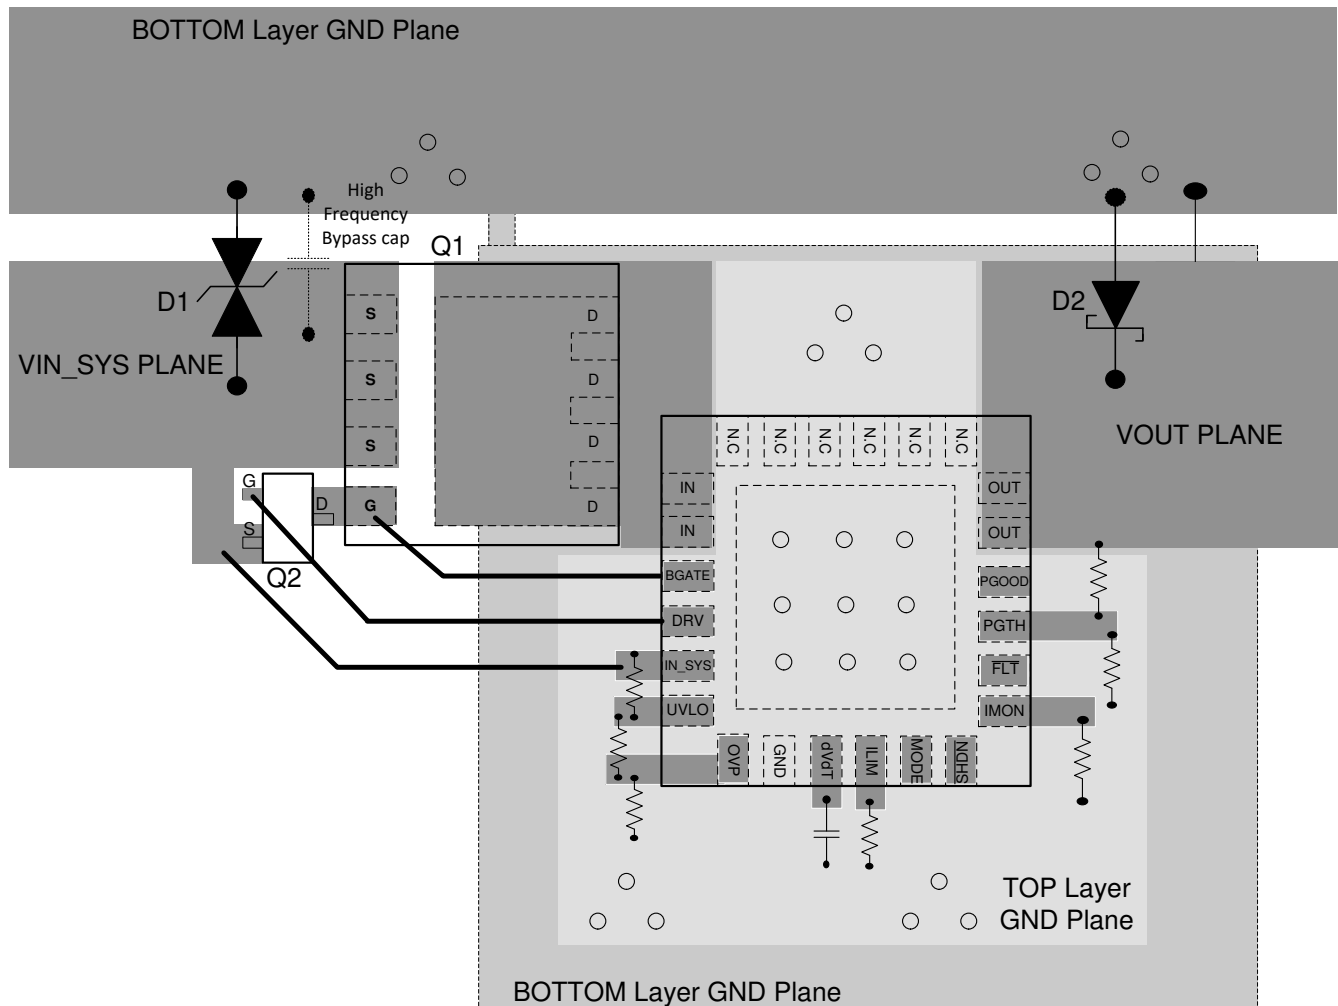
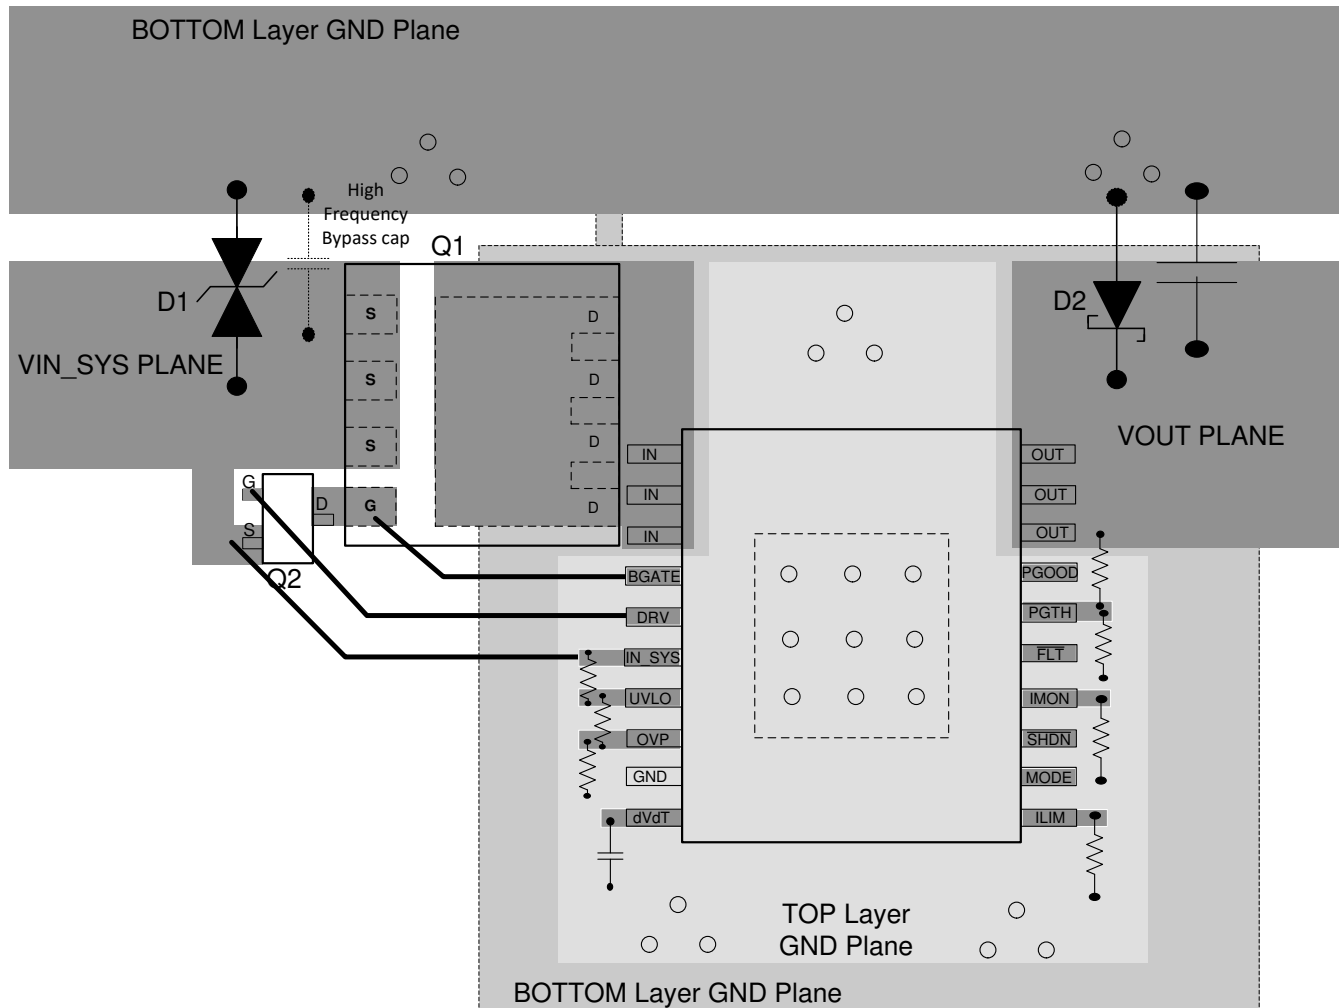

図 9-18. Typical PCB Layout Example with QFN Package with a 2-Layer PCB
図 9-19. Typical PCB Layout Example with HTSSOP Package with a 2-Layer PCB
- The external FET Q1 must be placed with DRAIN close to the V_{IN} pins of the IC and connected through a plane. The fast pulldown switch Q2 DRAIN and SOURCE must be placed very close to the GATE and SOURCE terminals of Q1 with very short loop. See Figure 9-18 and Figure 9-19 for a typical PCB layout example.